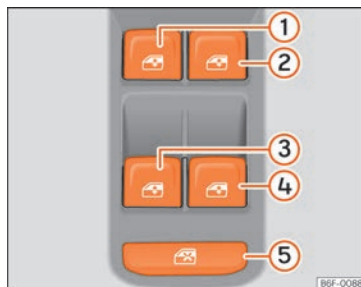

Fig.140 Detail of driver door: controls for the front and rear windows (vehicles with front and rear electric windows).
The safety switch  **Fig. 140 ⑤** on the driver door can be used to disable the electric window buttons on the rear doors.
Buttons  Fig. 140 , ,  and  have two positions for opening windows and two for closing them. This makes it easier to open and close windows to the desired position.